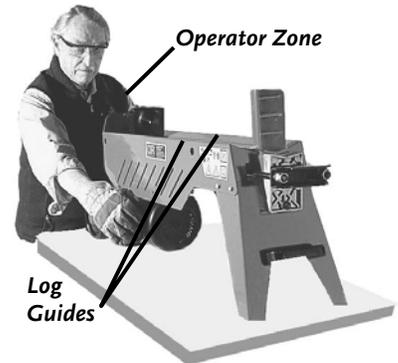

Figure 5
- **ALWAYS** BE SURE TO STAND INSIDE THE OPERATOR ZONE TO RUN THE WOOD SPLITTER (FIGURE 5). THIS IS THE AREA DIRECTLY BEHIND YOUR DR 6-TON ELECTRIC WOOD SPLITTER. NEVER OPERATE THE WOOD SPLITTER FROM ANYPLACE ELSE.
- FOR BEST SPLITTING RESULTS, PLACE LOG FLAT ON THE BEAM BETWEEN THE LOG GUIDES (FIGURE 5) WITH BUTT END TOWARD HYDRAULIC CYLINDER RAM.